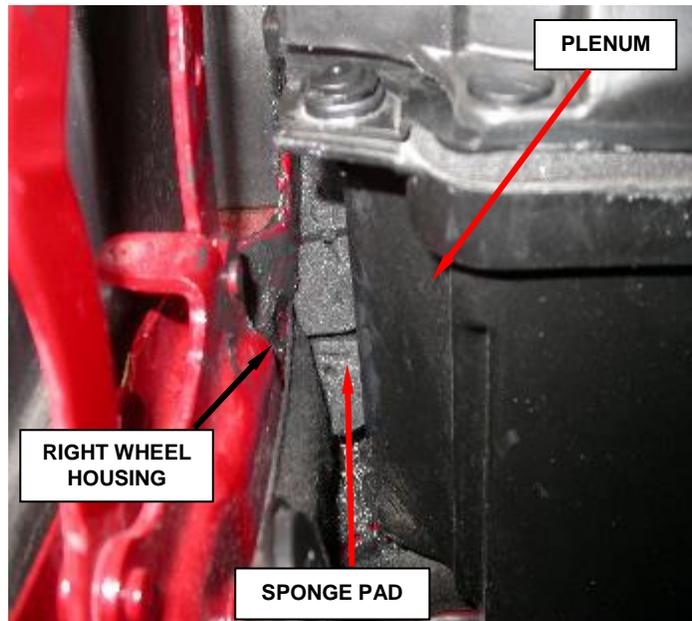

Figure 18 - Sponge Pad Installation
4. Remove the adhesive backing then insert the sponge pad between the right side of the plenum and the right wheel housing, pressing it firmly, using a suitable tool, making the edges of the cut adhere well, as shown (Figure 18).